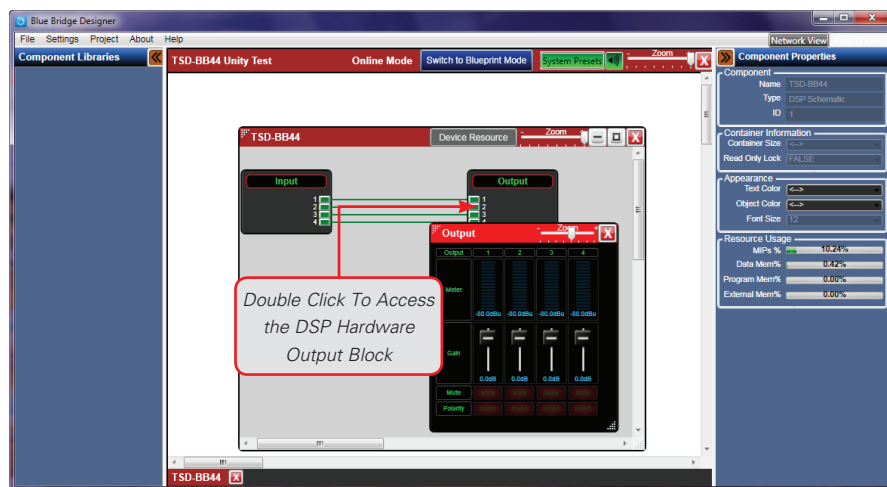

Figure 24
- Double clicking the DSP Hardware Output Block opens an Output window as in Figure 24.